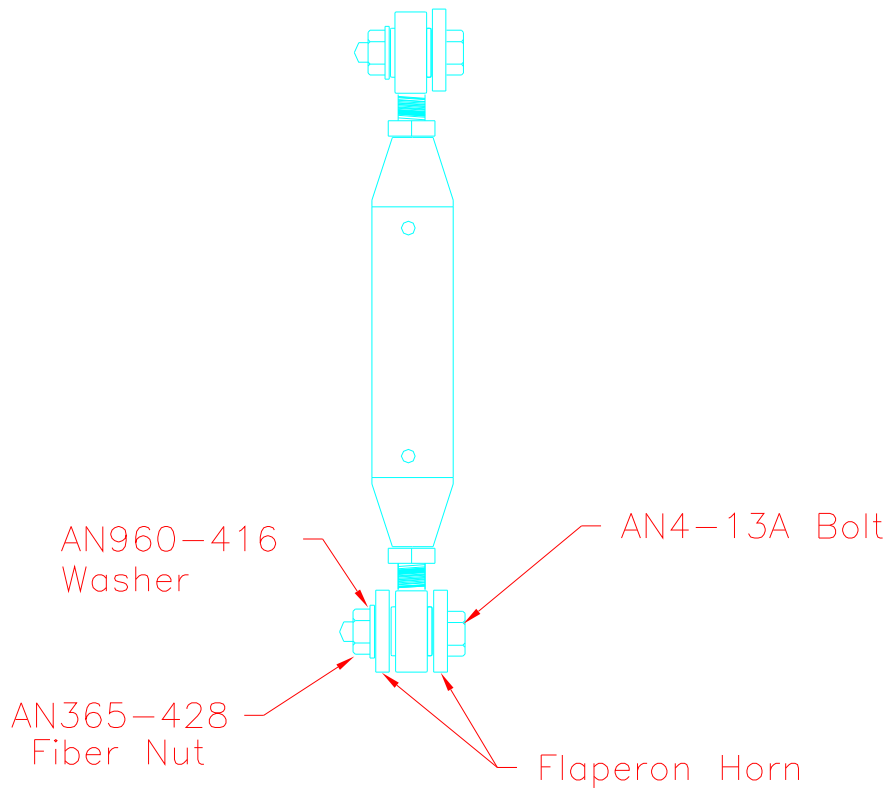

Figure 10.14.4
10) With the flaperons in neutral position attach the other end of the push-pull tube (CC-82) to the flaperons with an AN4-13A bolt, AN960-416 washer and AN365-428 fibernut. Figure 10.14.4.